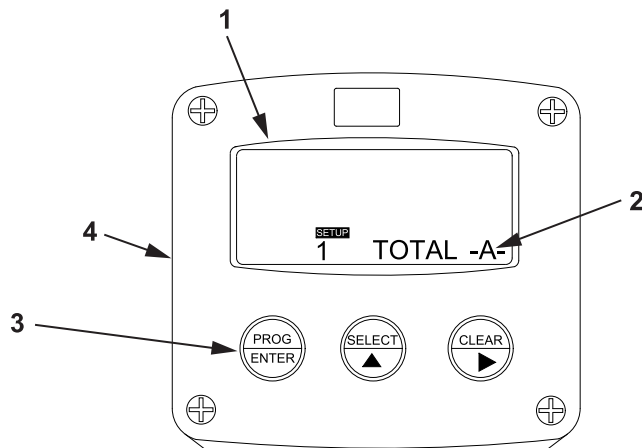

Figure 44. TOTAL A Display.
21. Verify that TOTAL A (Figure 44, Item 2) appears in the display screen (Figure 44, Item 1).
22. Press and hold the PROG/ENTER key (Figure 44, Item 3) on the tank volume meter monitor (Figure 44, Item 4) for 3 seconds to return to the operational screen.
23. Upon completion of programing, check display screen (Figure 44, Item 1) for proper operation.